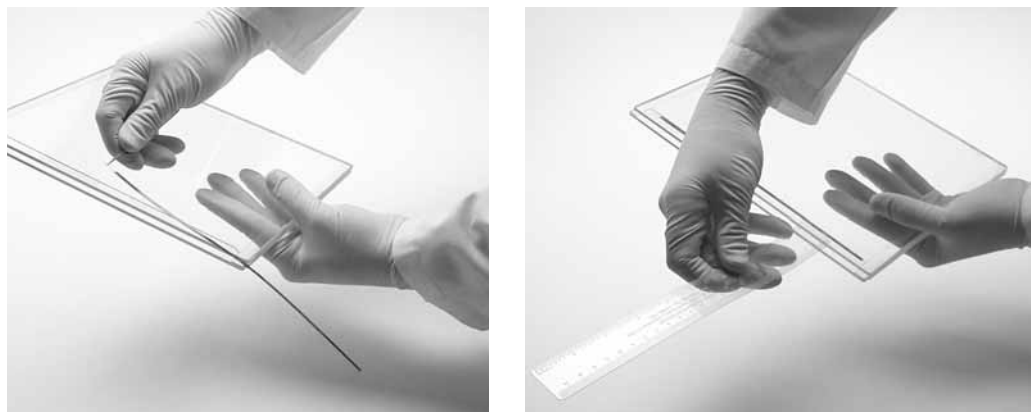

Fig 8-1. IPG strip are loaded onto cassette and slid into place.
- 9 Holding one end of the IPG strip with forceps, carefully draw it across the exposed top part of the long gel plate until the strip is completely on the glass plate and centered. Using a thin plastic spatula, ruler, or spacer push against the plastic backing of the IPG strip, not the gel itself, and slide the strip between the two glass plates and down into contact with the surface of the slab gel. The strip should just rest on the surface of the gel. Avoid trapping air bubbles between strip and the slab gel or piercing the second dimension gel with the strip. By convention, the acidic, or pointed, end of the IPG strip is on the left. The gel face of the strip should not touch the opposite glass plate. (See Fig 8-1).